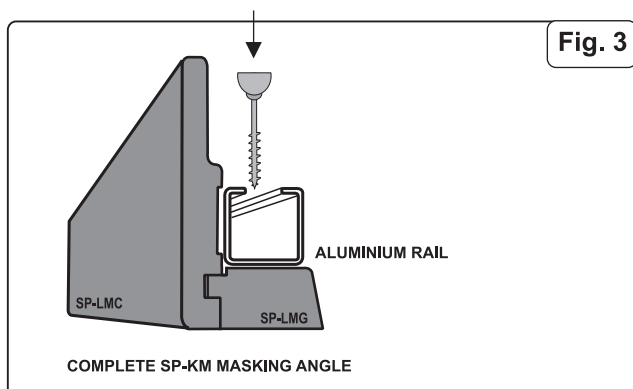

Fig. 3
11. Place the rail symmetrically in the cover in a distance of ca. 3 mm from the SP-LMC strip (fig. 3). Drill the rail and the cover with 3-4 mm drill in 50 cm intervals beginning and finishing within a distance not less than 10 cm from the rail ends. Then enlarge holes in the aluminium rail with 6 mm drill (fig. 3).